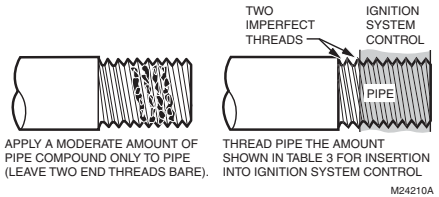

Fig. 6. Use moderate amount of pipe compound.
5. Apply a moderate amount of good quality pipe compound, leaving two end threads bare. On LP installations, use a compound resistant to LP gas. See Fig. 6.